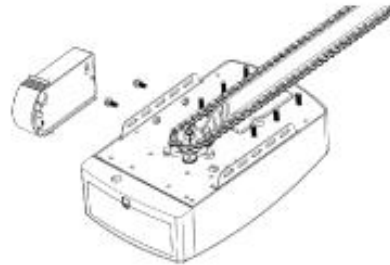

Figure 21
STEP2 (Fig.21)
Join the battery to opener, find the Fig.21.